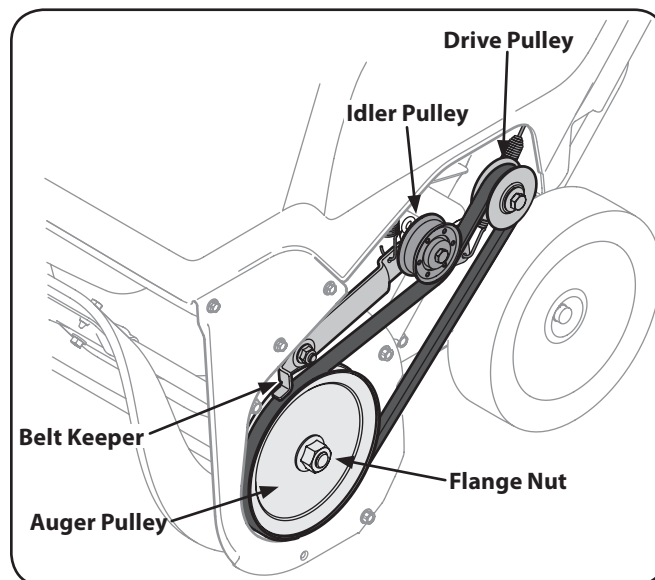

Figure 7-3
7. To replace the belt follow these instructions and refer to Figure 7-3:
- a. Route the belt around the drive pulley and under the idler pulley. See Figure 7-3.